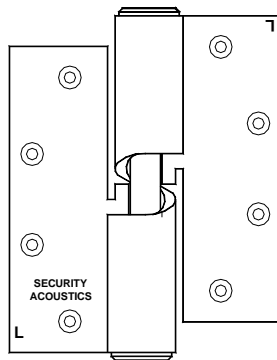

FIGURE 4
A. Mount the Gravity Glide hinges (**Fig. 4**) to the frame and door with the 12-24 flat head machine screws provided. The hinge leaf with the pin mounts to the frame. All hinges are handed for left hand and right hand assemblies and are marked **L** for left hand or **R** for